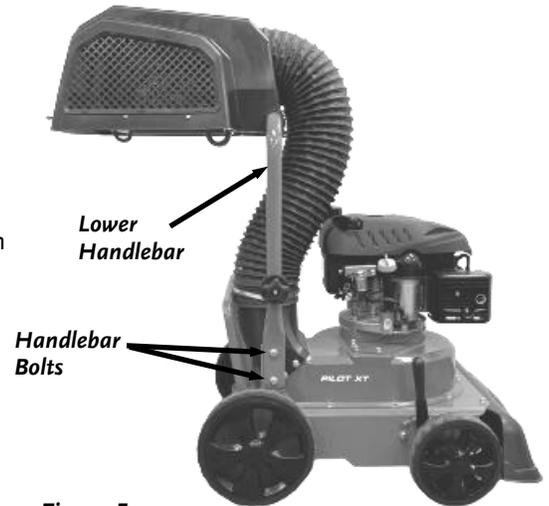

Figure 5
3. Rotate the Lower Handlebar upright, align the mounting holes, and install the four 5/16-18 X 1/2" Bolts by hand (**Figure 5**).